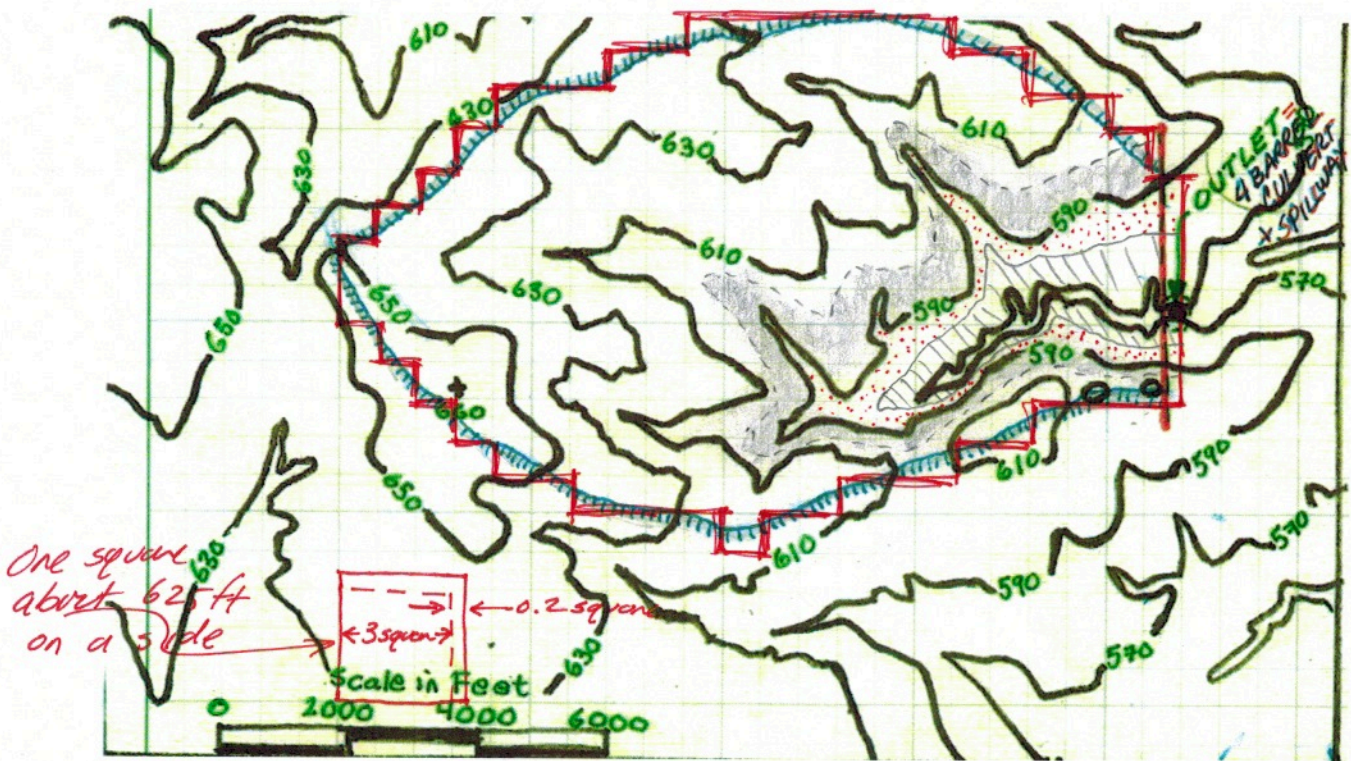

Figure 2: Topographic Map of a portion of the Earth. Elevations and linear distances are in feet. North (by convention) is up.
2. Figure 2 is a topographic map of a small drainage basin. The drawn contour interval is 20 feet. Many of the contours are labeled.
A stormwater detention structure (dam) is to be built on the Eastern portion of the basin, near the outlet shown on Figure 2. The purpose of the detention structure is to reduce the peak discharge downstream of the structure.
3. Figure 5 is a tabulation of an observed storm and runoff for the drainage area depicted by the map in Figure 2 before installation of the detention facility.